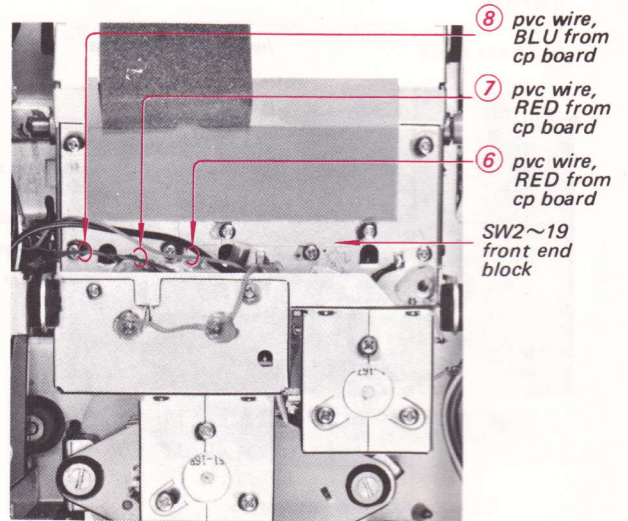
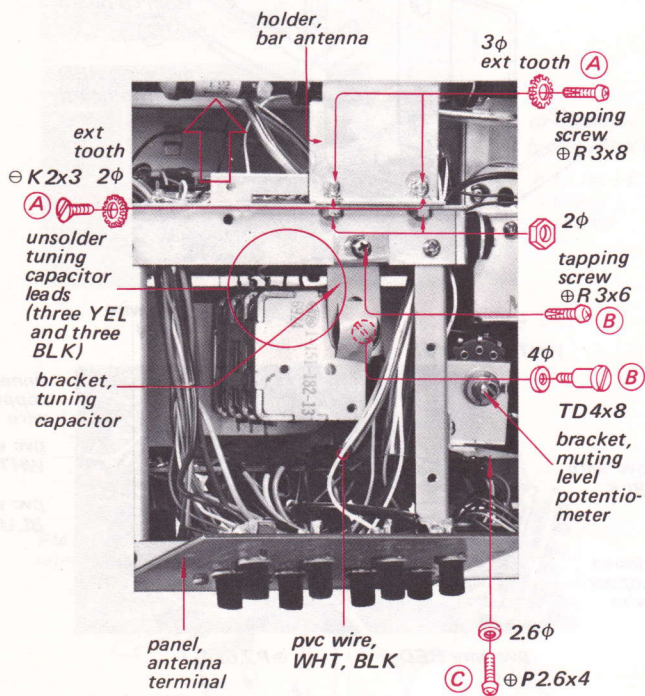

Fig. 2-17
Fig. 2-16
2. Remove the four screws marked (A) in Fig 2-16.
3. Remove the two screws marked (B).
4. Remove the screw marked (C).
7. Unsolder the three wires ((6) (7) (8)) which come from the sw front end as shown in Fig. 2-17.
9. Remove the circuit board in the direction shown by the arrow in Fig. 2-16.